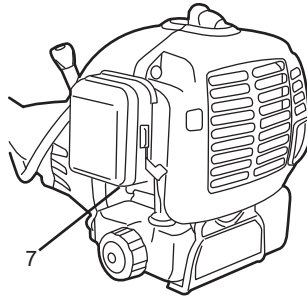

Fig. 6
Use the primer (7) when starting the product with cold engine (Fig. 6).